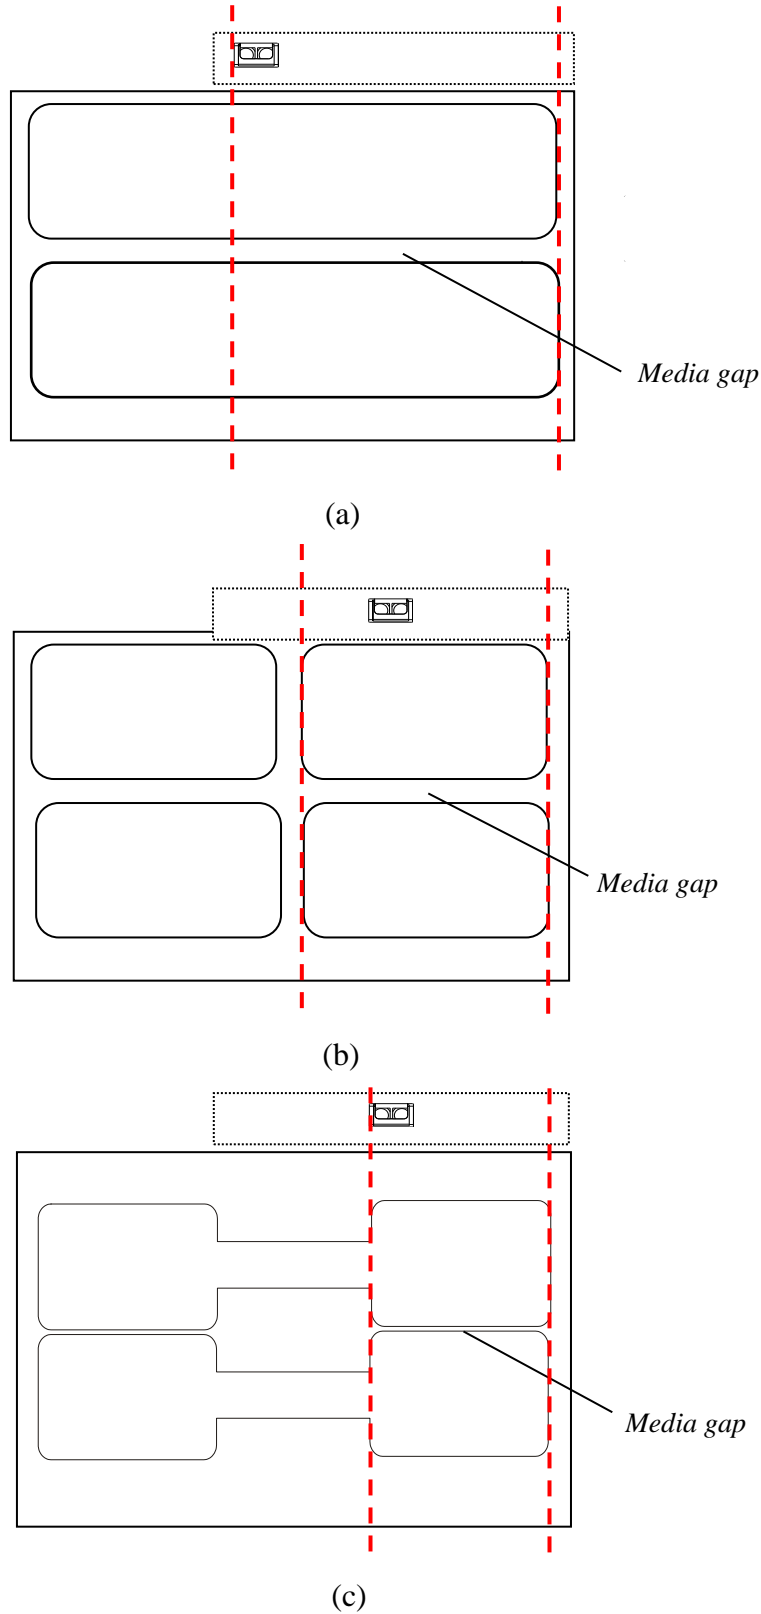

Figure 2-43 Media Sensor Position
- *Technically, the Transmissive Sensor is designed to detect a gap, hole or notch between labels, the Reflective Sensor is for detecting black marks. However, in many cases, the Reflective Sensor also can be used to detect gap, hole or notch. When choose Reflective Sensor to detect gap between labels, please refer to Figure 2-43(a) (b) (c) to adjust the position of the sensor for different media types as shown, the sensor shall be placed between the dotted lines.*